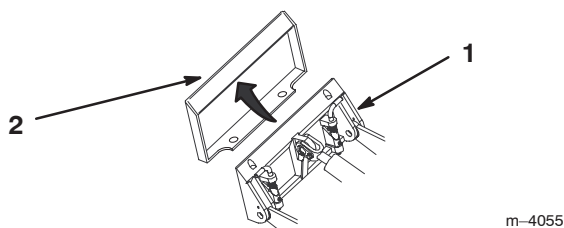

Figure 12
- Position mount plate into the upper lip of the attachment receiver plate (Fig. 12).